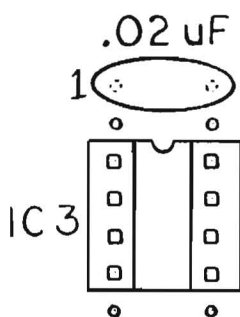

Fig. 2
4. Install one .02uF cap in vacant holes 1 and 14 of IC3. See Figure 2, below.